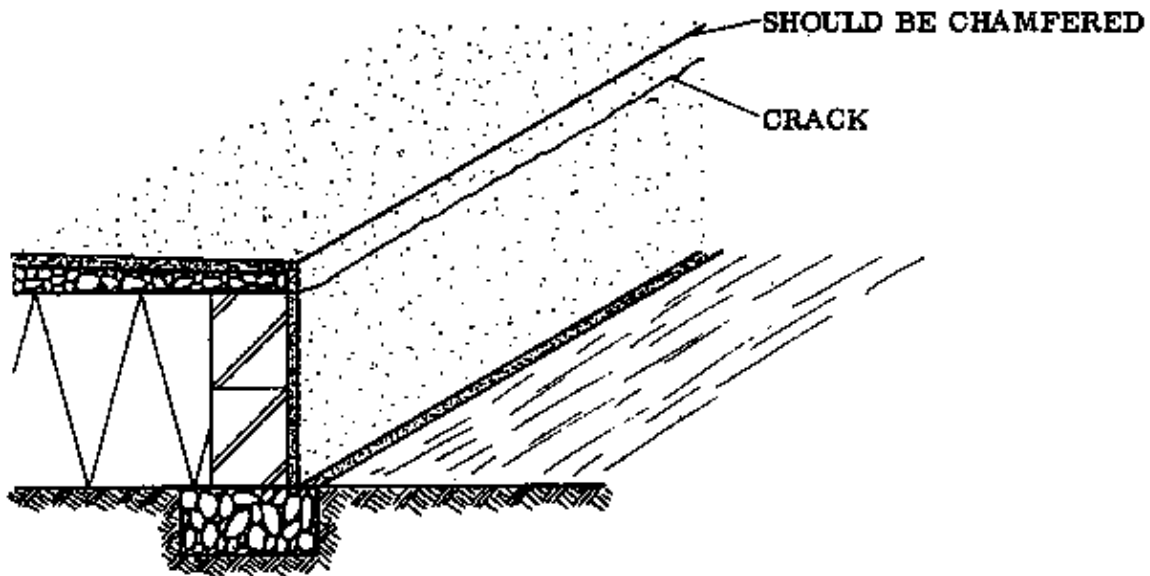

Fig. 2
– PROJECTING OUTSIDE EDGE: If the outside edge of a verandah floor is kept flush with the render of the footing (Fig. 2), then cracks would soon appear along the edge. This is prevented by constructing the floor so